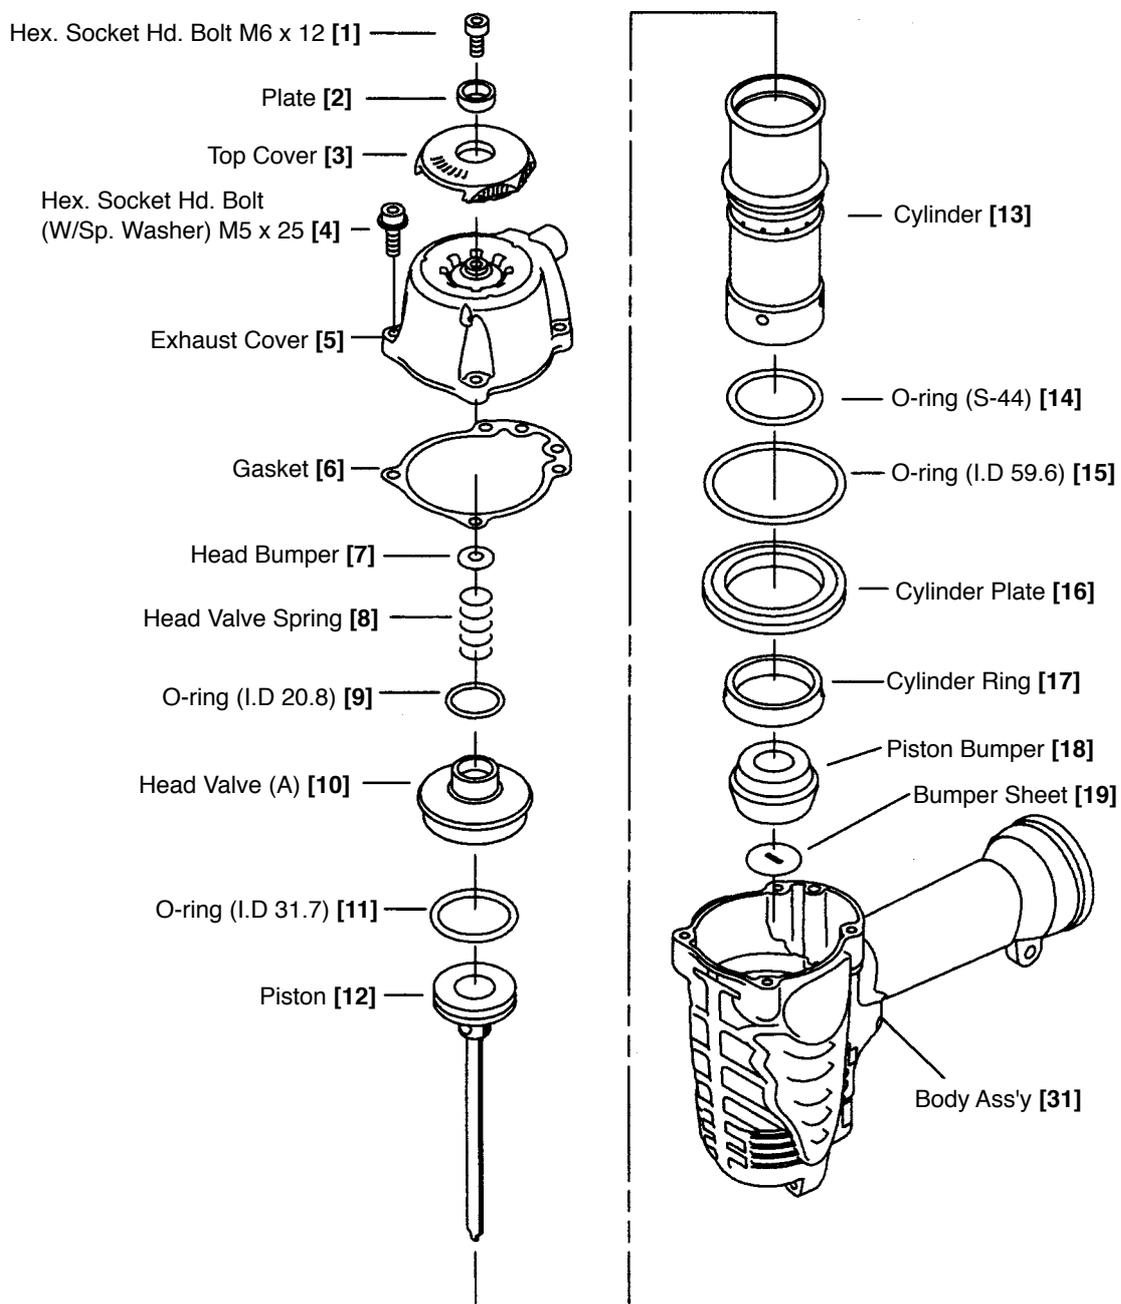

Fig. 11 Disassembly and reassembly of the exhaust cover, head valve (A), cylinder piston, piston bumper, etc.
(1) Disassembly and reassembly of the Exhaust Cover [5], Head Valve (A) [10], Cylinder [13], Piston [12], Piston Bumper [18], etc. (See Fig. 11.)